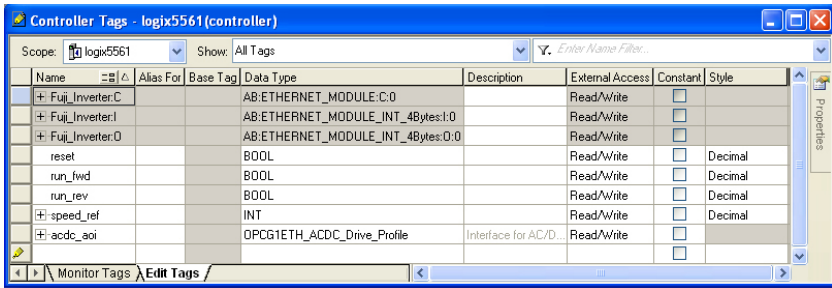

Figure 92: Create AC/DC Drive Profile AOI Tags
4) Create the tags in Figure 92.